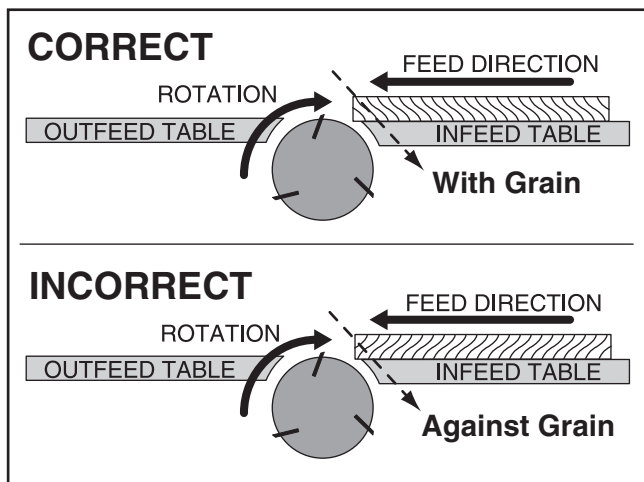

Figure 26. Correct and incorrect grain alignment with cutterhead.
- **Jointing and surface planing with the grain produces a better finish and is safer for the operator.** Cutting with the grain is described as feeding the stock on the jointer so the grain points down and toward you as viewed on the edge of the stock (**Figure 26**).